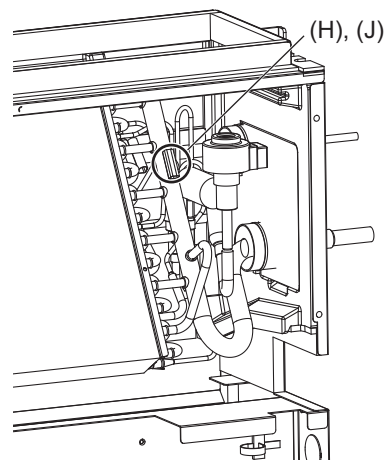

Fig.10
- (5) Remove the thermistor (H) from the thermistor holder (J) on the copper tube. (Fig.10)